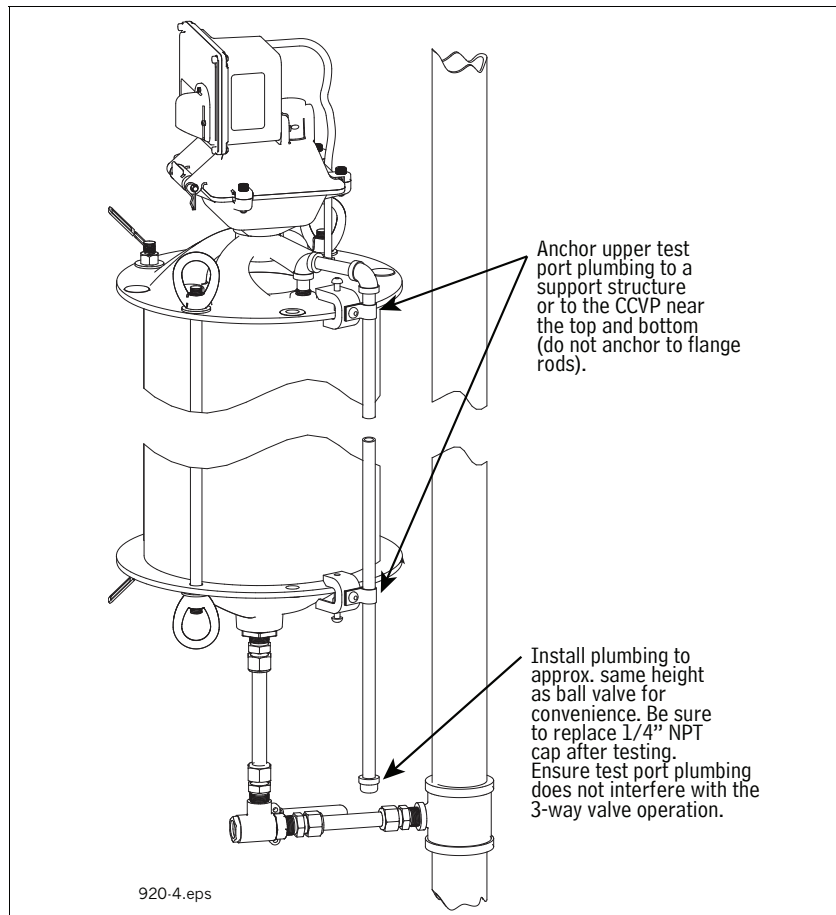

Figure 12. Optional lowering of upper test port
1. Refer to Figure 12 to install optional piping necessary to lower the CCVP's operability (upper) test port.